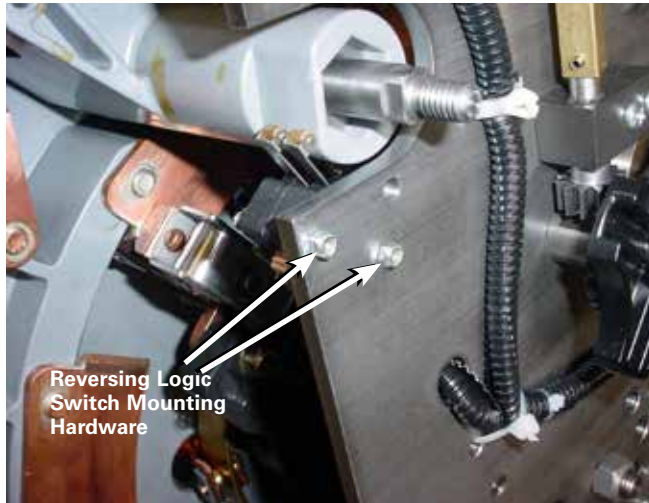

Figure 6. Logic switch removal.
- Using a small screwdriver (or 5/32" Allen wrench) and a 1/4" wrench, loosen and remove the self-locking nuts and reversing logic switch mounting screws. See Figures 6 and 7.